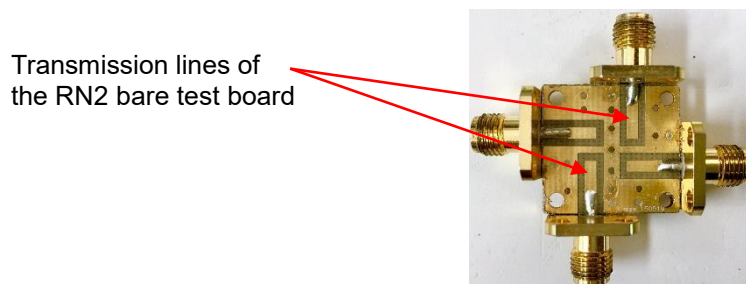

**Figure 6. RN2 Test Board Layout**
**Figure 6** shows the RN2 test board layout used for testing the CMX20Q03 RF performance. The RN2 test board is based on the Taconic RF35 board with the dielectric constant of 3.5, board thickness of 0.8 mm, and copper of 1 Oz.
We recommend that you use the same material and design layout, as shown in **Figure 6**, to meet the specifications in this datasheet. However, if you use different materials, you must follow the basic guidelines. See ‘RECOMMENDED PCB LAYOUT AND SOLDER MASK PATTERN’ for more details.